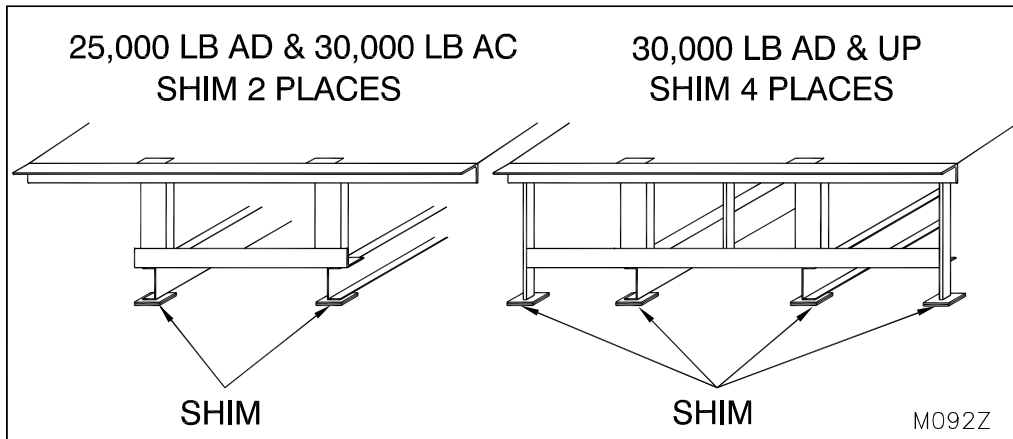

Figure 12: Dock Leveler Rear Shims
1. ___ Place shims of minimum length and width of 3" by 4" and a minimum thickness of 14 gauge under rear frame until top rear of dock leveler is flush with rear curb angle. (See "Figure 12: Dock Leveler Rear Shims" on page 16) Tack weld into position.